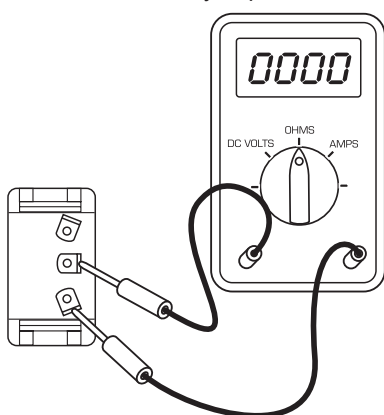

Figure 61
1. **Switch OFF.** Connect the ohmmeter between momentary switch input power terminal and its top output power terminal (Figure 61). Ohmmeter must indicate **no continuity**.